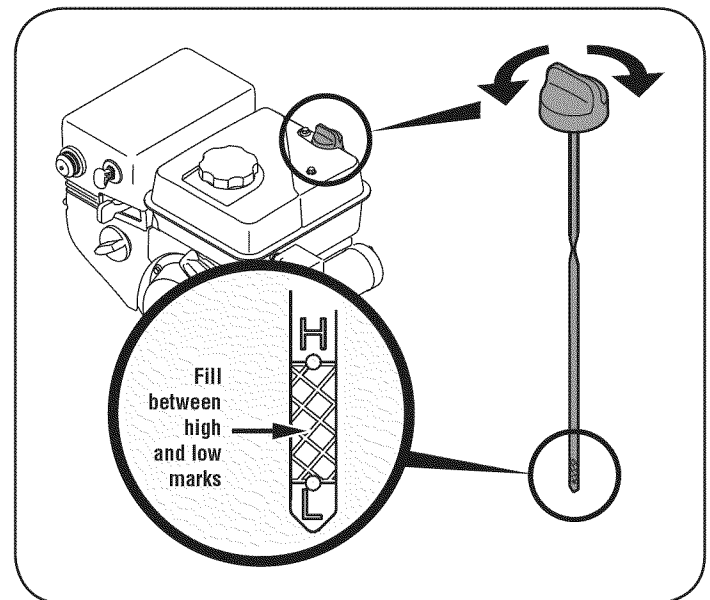

Figure 11
3. Remove the oil filler cap/dipstick. If level is low, slowly add oil until oil level registers between high (H) and low (L). See Figure 11.